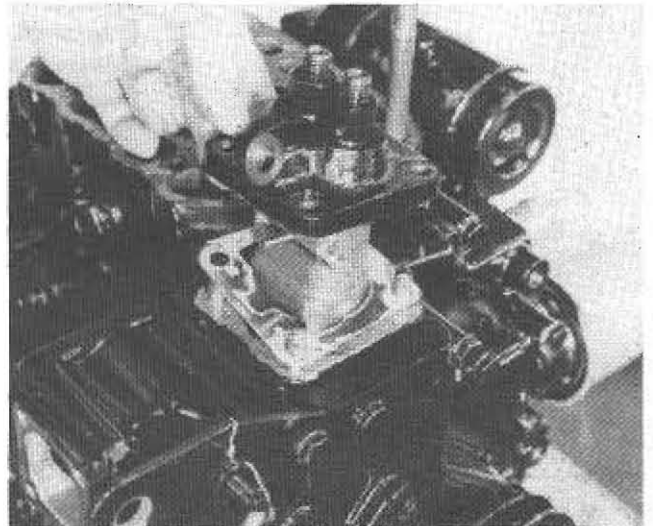

Fig. 2-3 Removing Injection Pump Assembly
14. Remove the cover from the timing bearing housing. Remove the fuel injection pump assembly (Fig. 2-3).